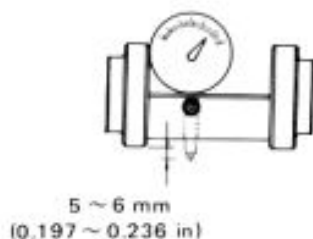

Fig. 16-21-1.
- Set the dial indicator on the dummy, letting the indicator spindle protrude 5 to 6 mm from the bottom of the dummy as shown in Fig. 16-21-1.